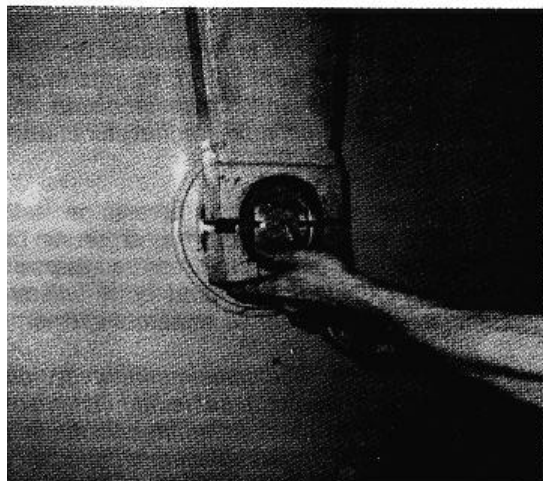

FIGURE 9-98.
b. Remove the capscrews (four) from both steering yoke caps. Then remove and tag the caps (see figure 9-98).